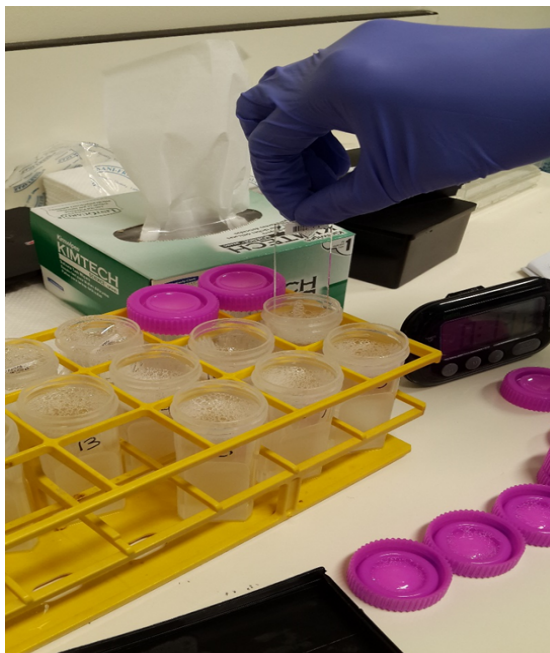

Figure 6: Wash 1- Wash the slide in a pre-filled Pap jar of 30 ml SAB (one slide per Pap jar).
3. Remove each clip from the gasket and detach slides from gasket. Wash each array individually in a Pap jar containing 30 ml of SAB. Invert a few times before placing it in the Pap jar rack on the shaker and shake at 50 rpm (Figure 6). Start a timer to countdown 20 minutes.